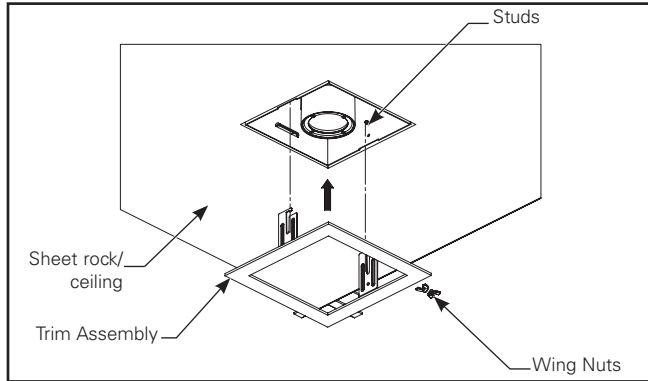
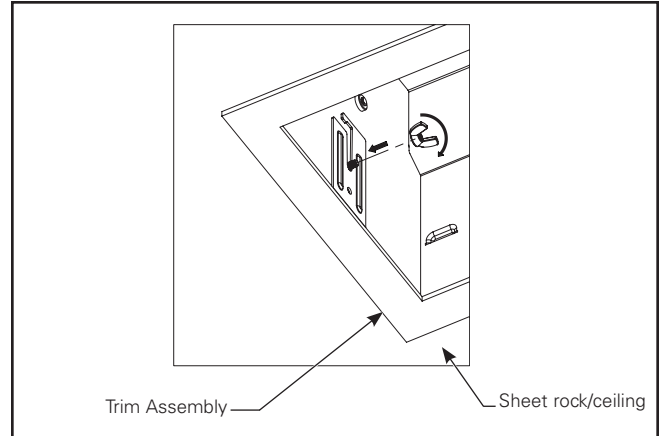
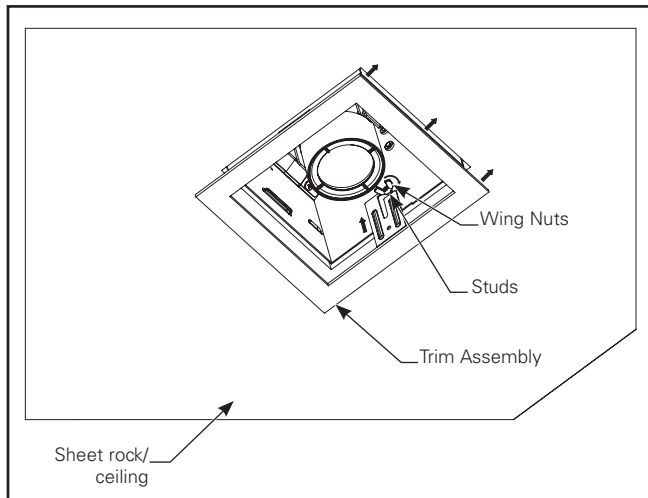

Figure 1.13.
Figure 1.15.
Figure 1.14.
6. Install sheet rock or grid tile flush with the edge of the housing place Trim on the housing & push into the studs (Figure 1.13). Install wing nuts on the studs. Place trim hook on studs. First, push one side of the trim inside and tighten wing nut (Figure 1.14), Then the opposite side. (Figure 1.15)